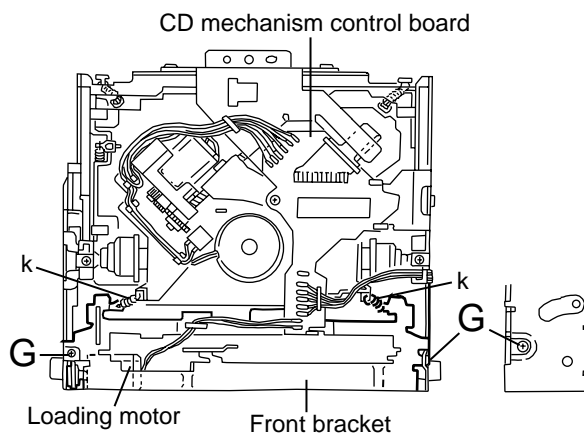

Fig.3
■ Removing the loading motor (See Fig.3 to 5)